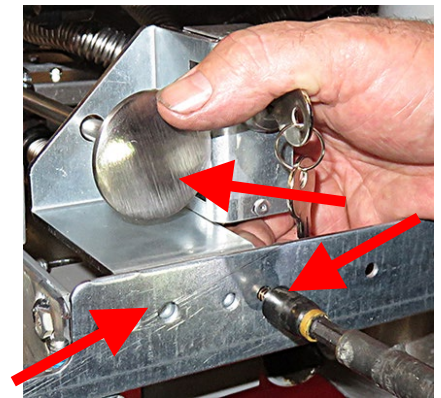

Figure 51
50. Align and attach the dispose valve bracket to the frame (see Figure 51).
Figure 51). Ensure the dispose handle is mounted at a 90 degree angle to the cross bar. Failure to mount the handle & bracket at a 90 degree angle may cause the dispose handle to bind when opening or closing the dispose valve.